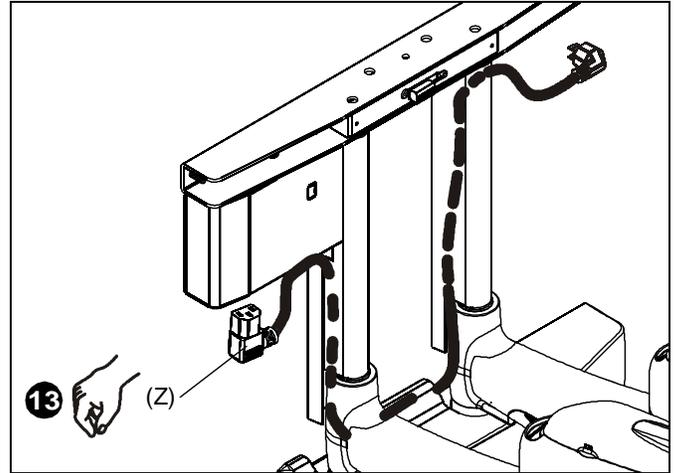

Figure 9
13. Connect and route power cord (Z) through PXR cable management areas. (See Figure 9)